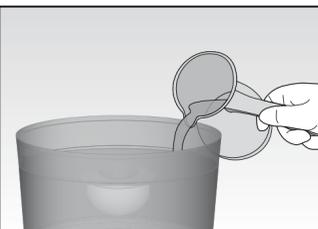

Fig. 6
- Pour clean water into the top tank (G) as far as the "MAX" level on the tank itself (Fig. 6).